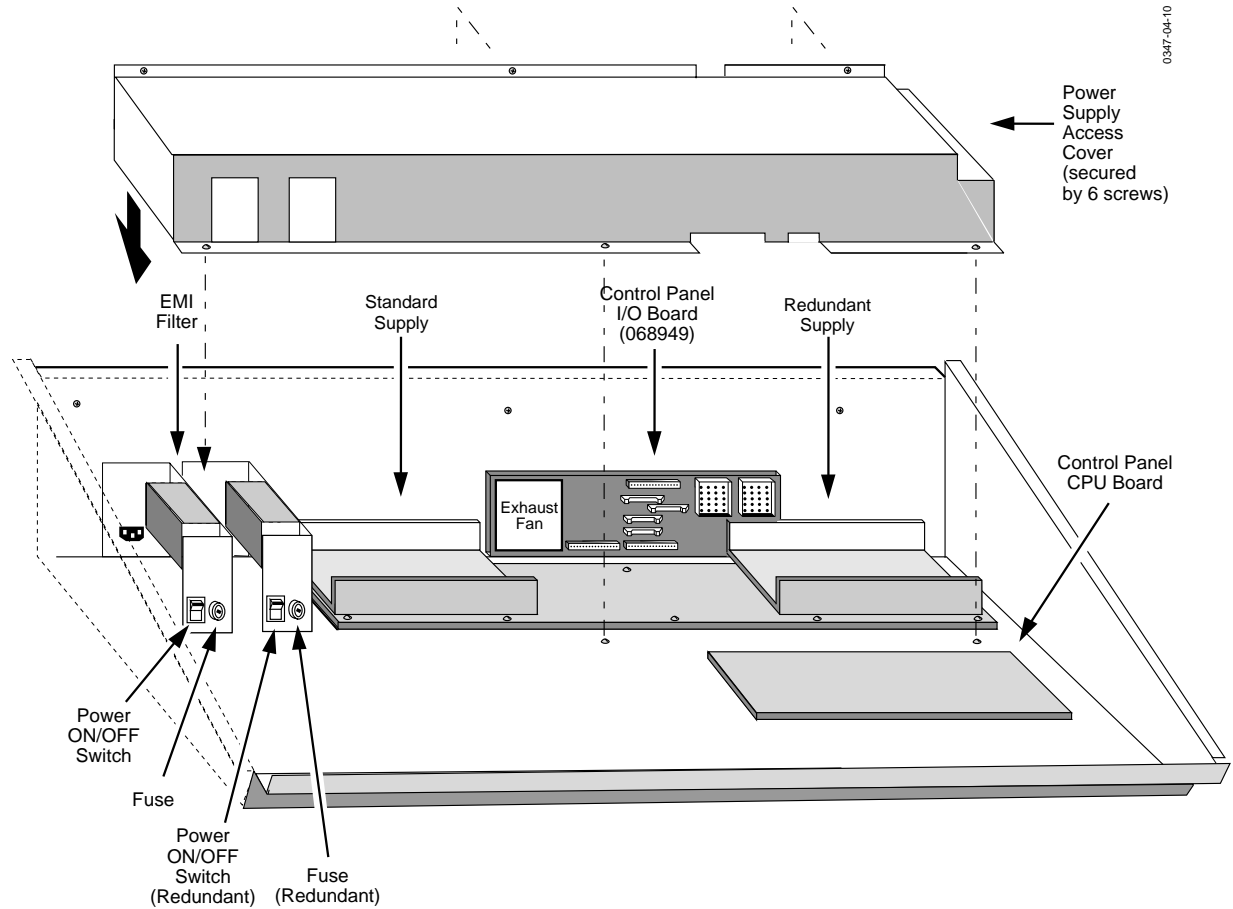

Figure 4-19. Model 4000-2 Control Panel Power Standard Supply Removal
4. Disconnect the AC input and DC output wiring from the supply to be removed. See Figure 4-19.